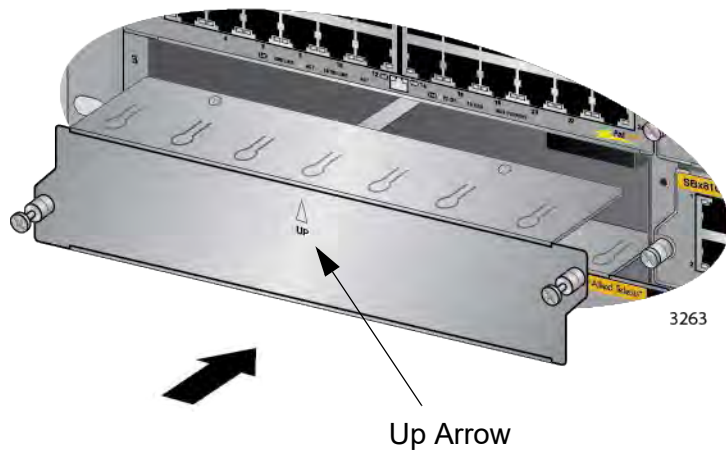

Figure 96. Installing a Blank Slot Cover
1. Position a blank slot cover over an unused slot, as shown in Figure 96. The up arrow on the panel must be pointing up.